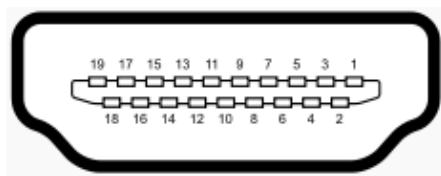

Figure 3-21: HDMI Connector
- CN Pinouts:** See **Table 3-3** and **Figure 3-21**